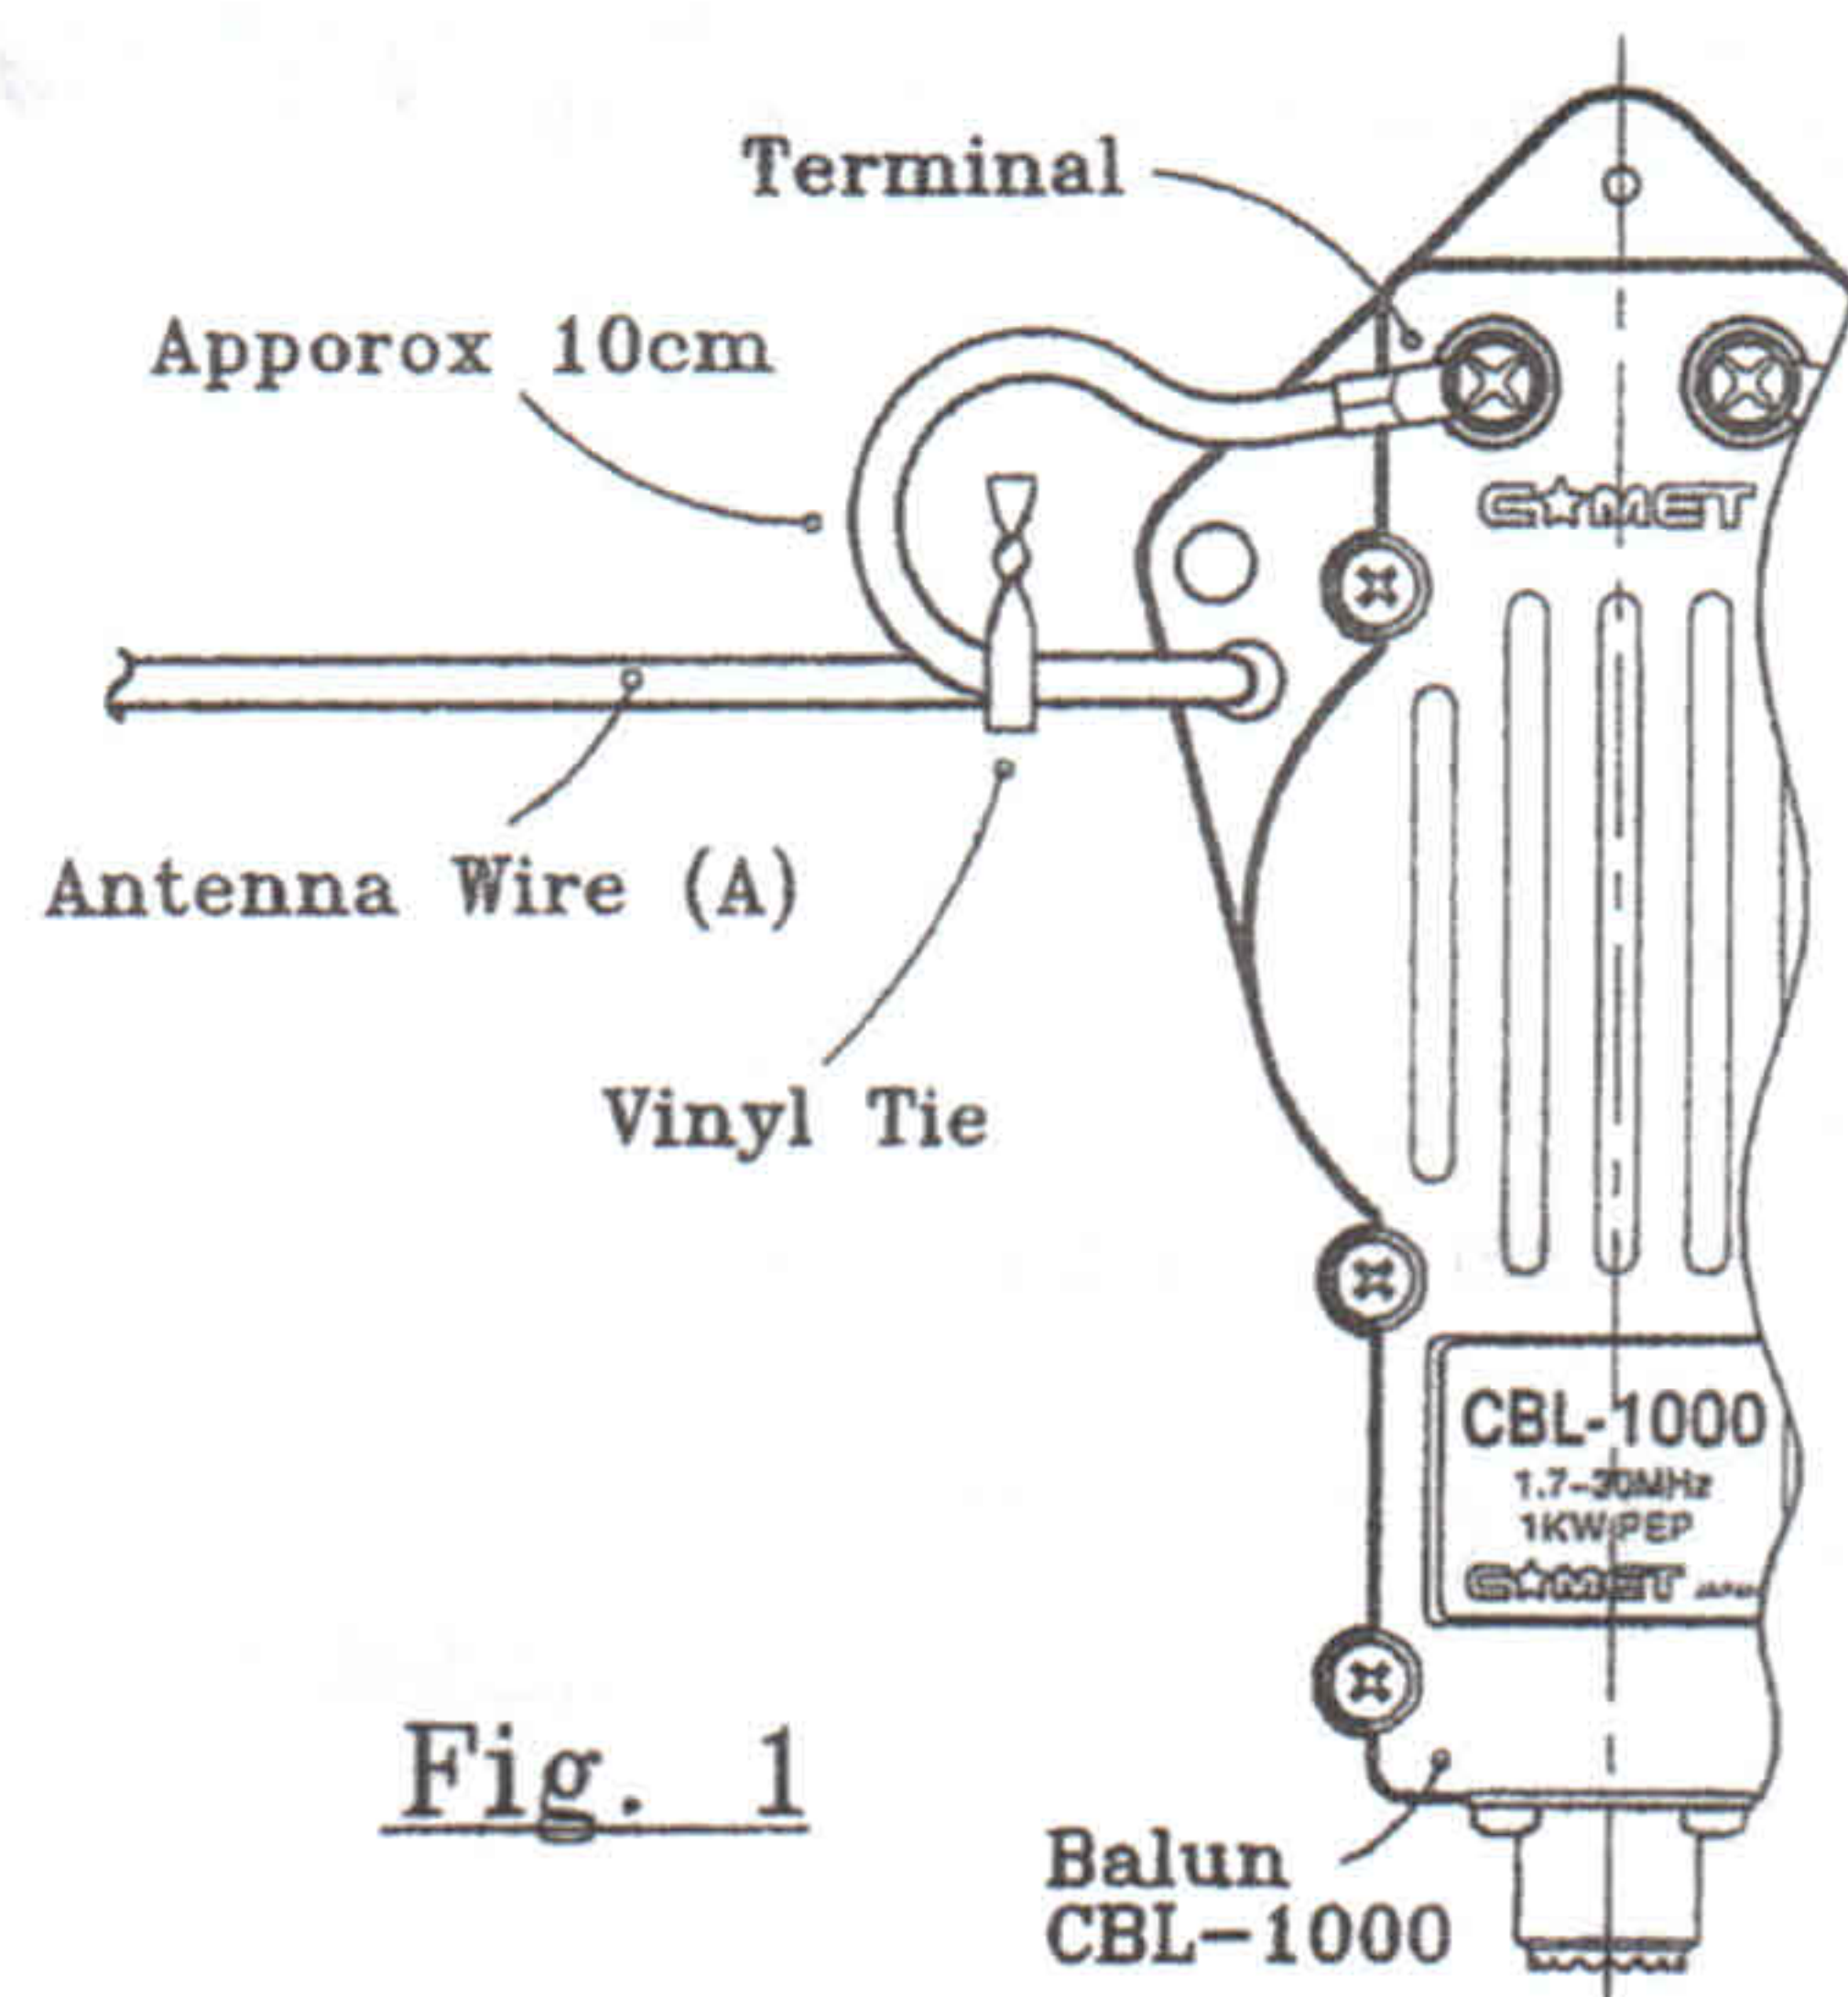

Fig. 1
Pass the (A) Wire through the Hole it firmly with vinyl tie. Then, assemble both (A) Wires with terminals to front & back side of the balun, with bolt nut, as shown on Fig. 1.